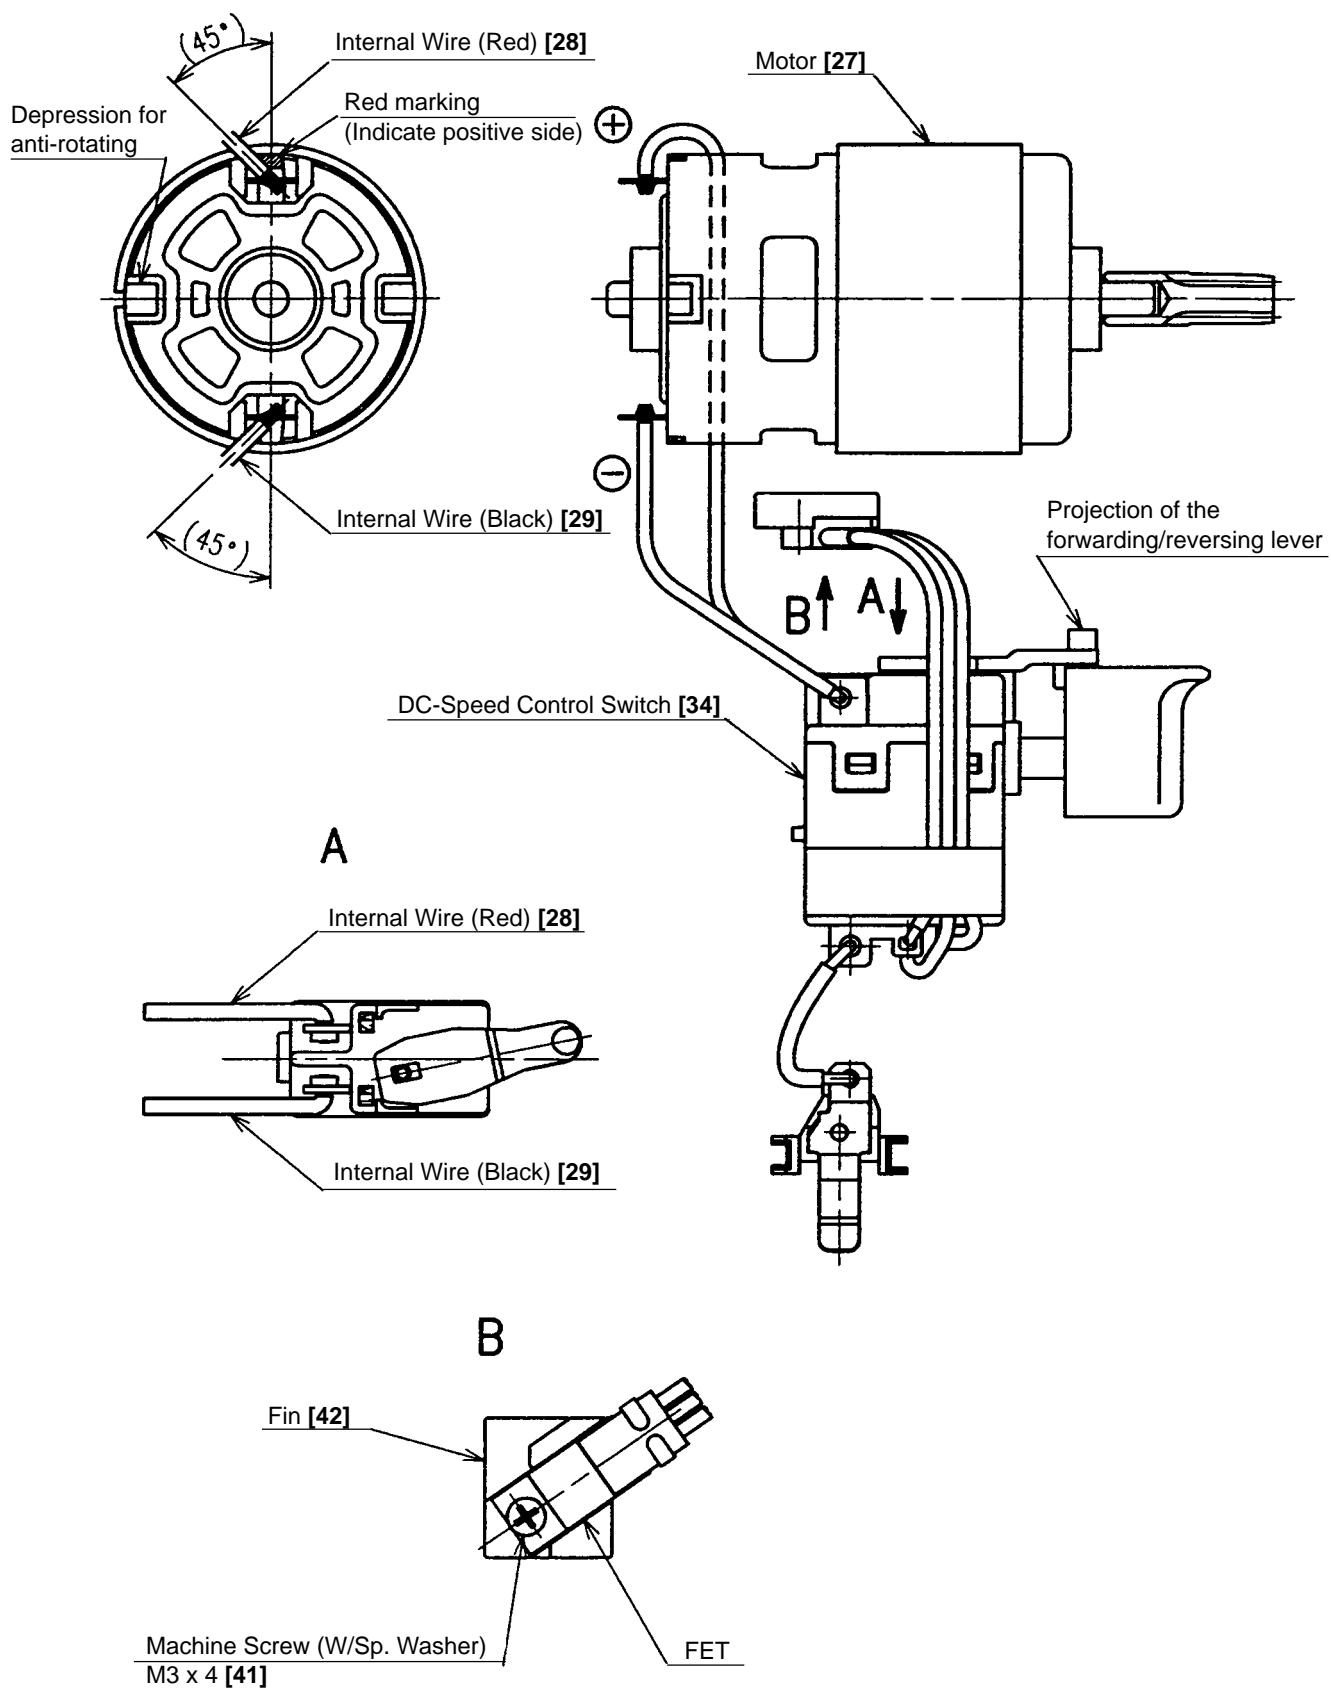

Fig. 6
(1) Reassembly of Housing (A) assembly
- (a) Be sure to follow the wiring diagram (Fig. 6) for proper wiring.
- (c) Mount the Motor [27] into housing (A) so as to pay attention to the position of the Internal Wire (Red) [28] and the depression for preventing motor body from rotating fit in housing (A).